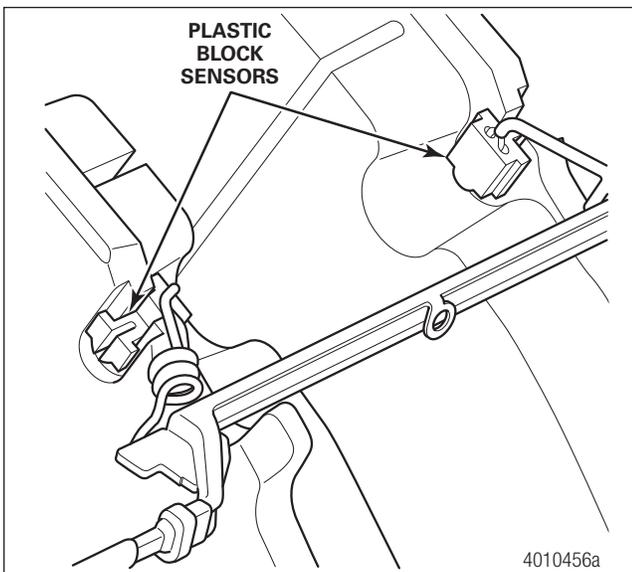

Fig. 6.21 PWWI Plastic Sensor Blocks Installation
- b. Carefully hold the pad retainer with the PWWI in position to allow for installation of the plastic sensor blocks. Install the plastic blocks of the PWWI into the pads. Do not use excessive force, but ensure they are pushed to the bottom of the slot. Figure 6.21.